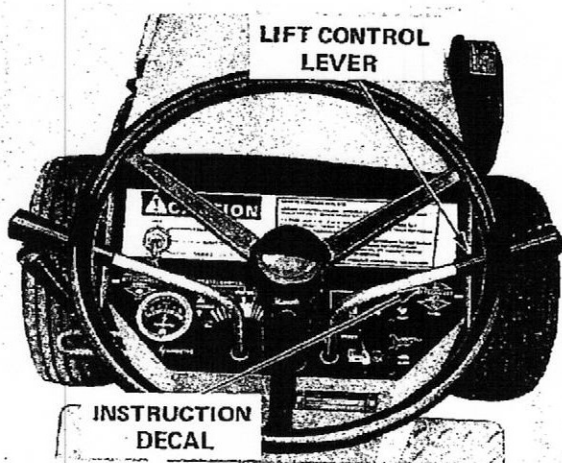

FIGURE 1. OPERATING CONTROLS
4. Pull back on the Lift Lever, Figure 1, to raise the attachment. To lower the attachment and apply "down pressure" push the lever ahead to the first stop position. The control valve has a centering spring which returns the lever to neutral from either the "raise" or the "lower" and "down pressure" positions.